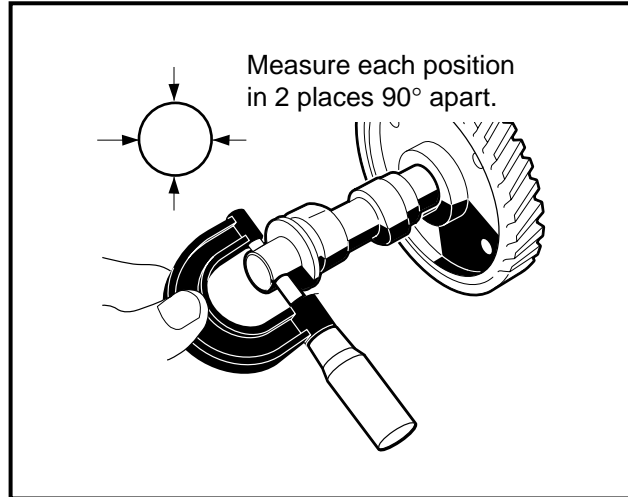
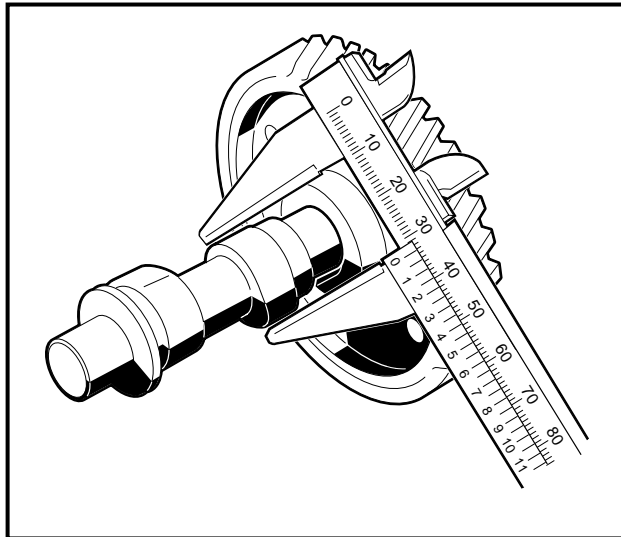

Figure 13-48 Measure O.D. of Camshaft Journals
Figure 13-49 Measure O.D. of Cam Lobes
5. Measure the camshaft journals and cam lobes with a micrometer at the points shown (**Figure 13-48, Page 13-26**) and (**Figure 13-49, Page 13-26**).